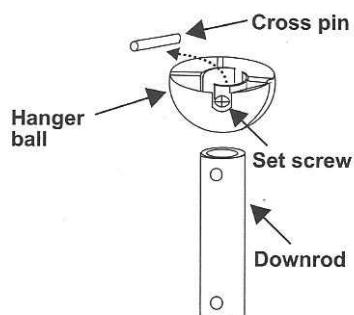

Figure 8
4. Remove the hanger ball from the down rod assembly by loosening the set screws, removing the cross pin and sliding the ball off the rod. (Fig.8)